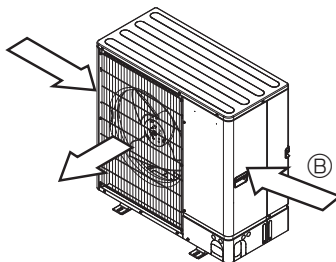

Fig. 1-6
- ③ Position the unit so that the air outlet blows perpendicularly to the seasonal wind direction, if possible. (Fig. 1-6)